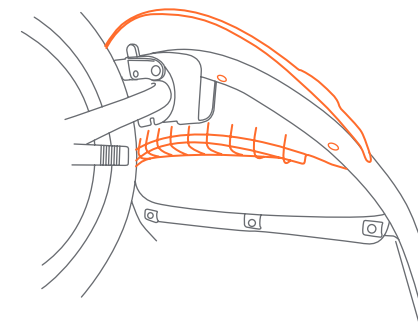

Fig. 24a
- 24)** • Line up the front fender and press onto the front frame assembly (Fig. 24a).